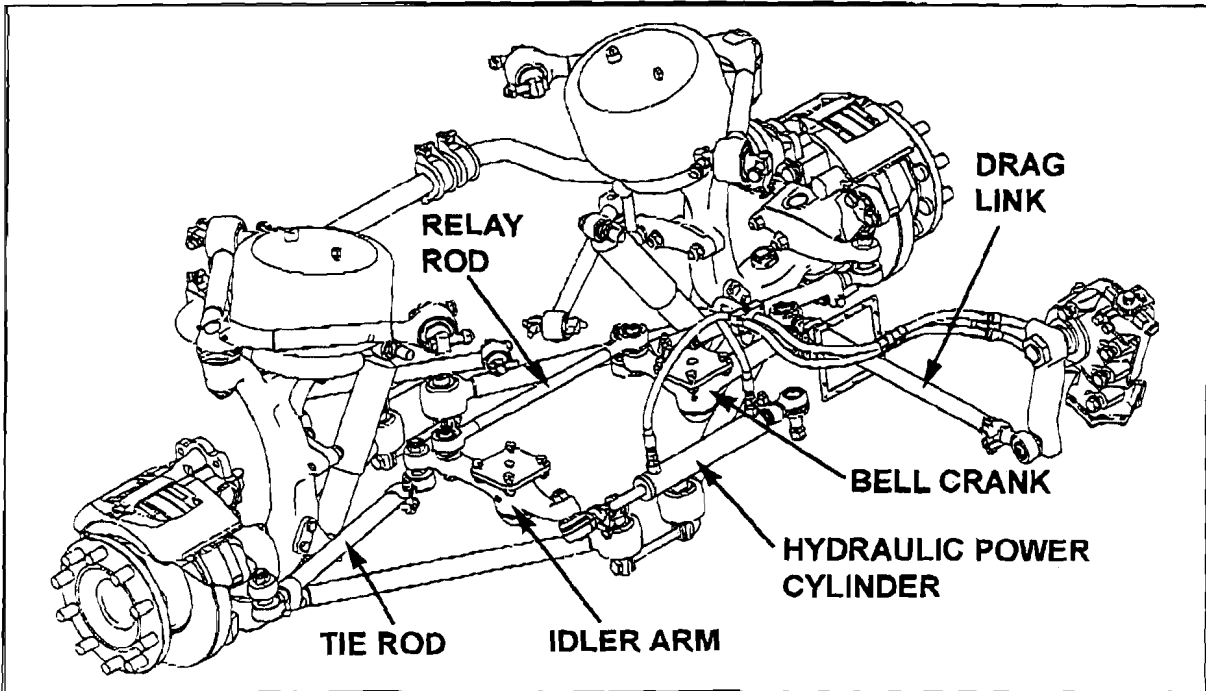

FIGURE 1: IFS
1. Remove cotter pin from bell crank ends **and** from tie rod end (Refer to figures 1 and 2).
2. Remove cotter pin from idler arm ends **and** from tie rod end (Refer to figures 1 and 2).